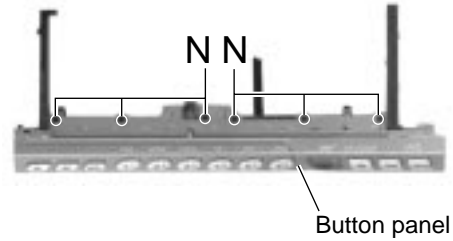

Fig.17
■ Removing the operation switch board (See Fig.17 and 18)